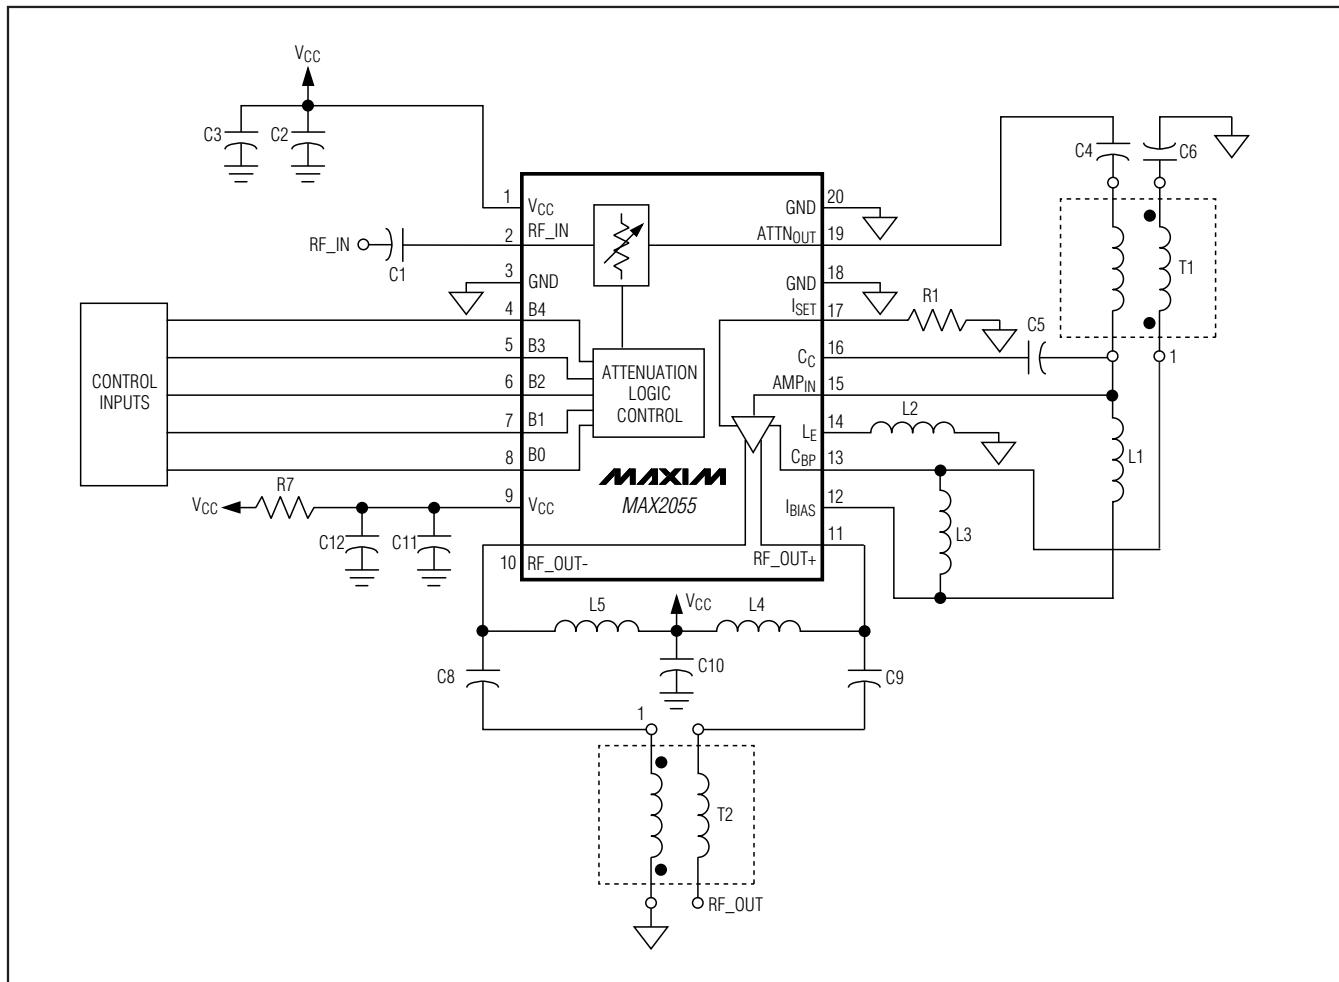

Figure 1. Typical Application Circuit
**Note 2:** All limits reflect losses of external components. Output measurements are taken at RF\_OUT using the application circuit shown in Figure 1.
(Circuit of Figure 1,  $V_{CC} = 5.0V$ ,  $R_1 = 1.13k\Omega$ , max gain ( $B_0 = B_1 = B_2 = B_3 = B_4 = 0$ ),  $P_{OUT} = 5\text{dBm}$ ,  $T_A = +25^\circ\text{C}$ , unless otherwise noted.)
(Circuit of Figure 1,  $V_{CC} = 5.0\text{V}$ ,  $R_1 = 1.13\text{k}\Omega$ , max gain ( $B_0 = B_1 = B_2 = B_3 = B_4 = 0$ ),  $P_{OUT} = 5\text{dBm}$ ,  $T_A = +25^\circ\text{C}$ , unless otherwise noted.)
(Circuit of Figure 1,  $V_{CC} = 5.0V$ ,  $R_1 = 1.13k\Omega$ , max gain ( $B_0 = B_1 = B_2 = B_3 = B_4 = 0$ ),  $P_{OUT} = 5dBm$ ,  $T_A = +25^\circ C$ , unless otherwise noted.)
**Table 1. Suggested Components of Circuit of Figure 1**